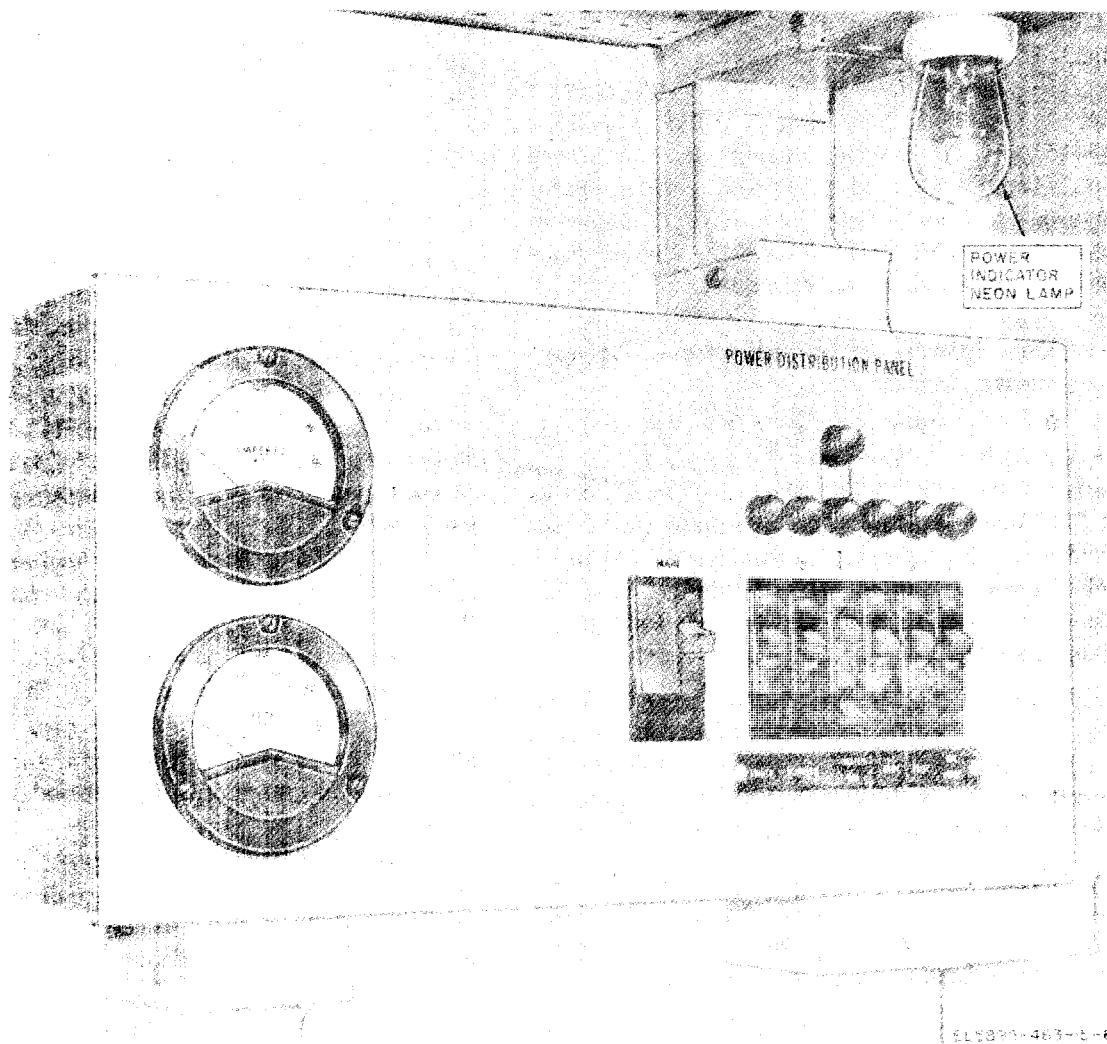

Figure 1-6. Power distribution panel, front view.
(3) *Power distribution panel (fig. 1-6).* The power distribution panel contains metering and control circuits for the ac distribution circuits.